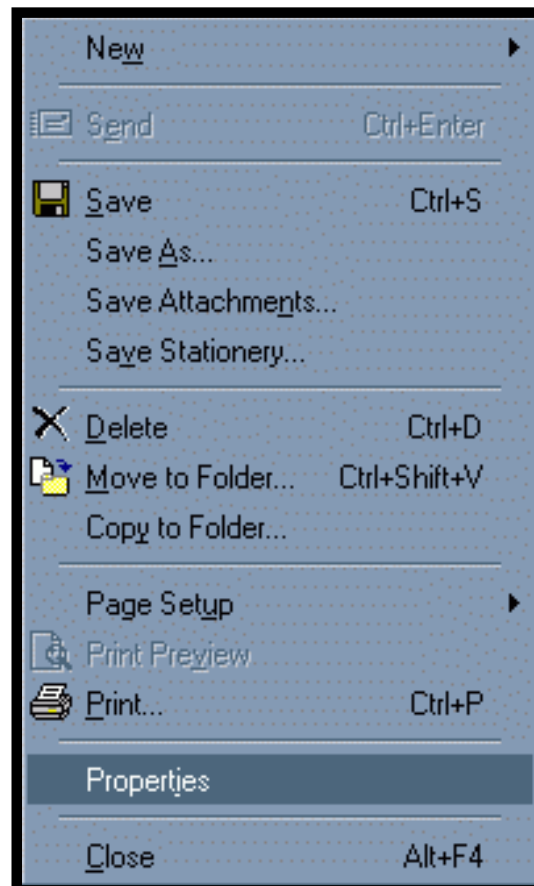

Figure 6.1.5-1: Properties selection
2. On the File menu, click Properties, and then click the Security tab. See Figure 6.1.5-1 below.